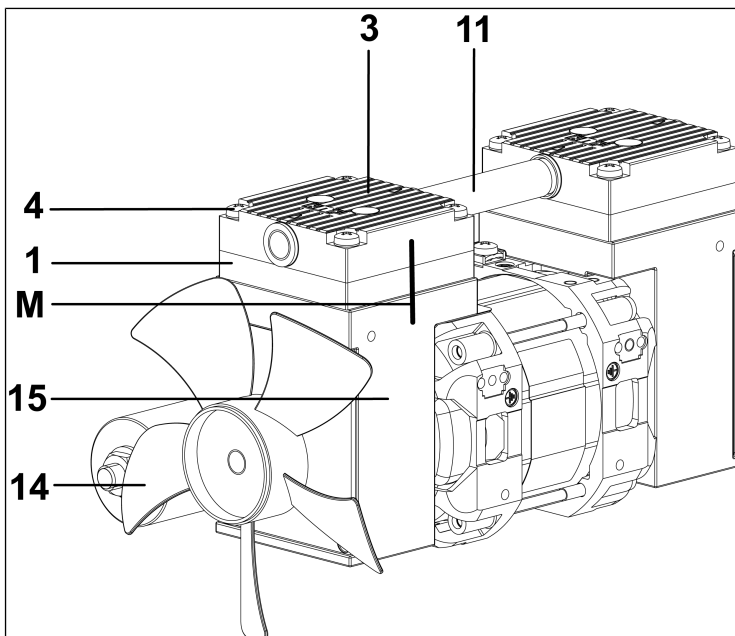
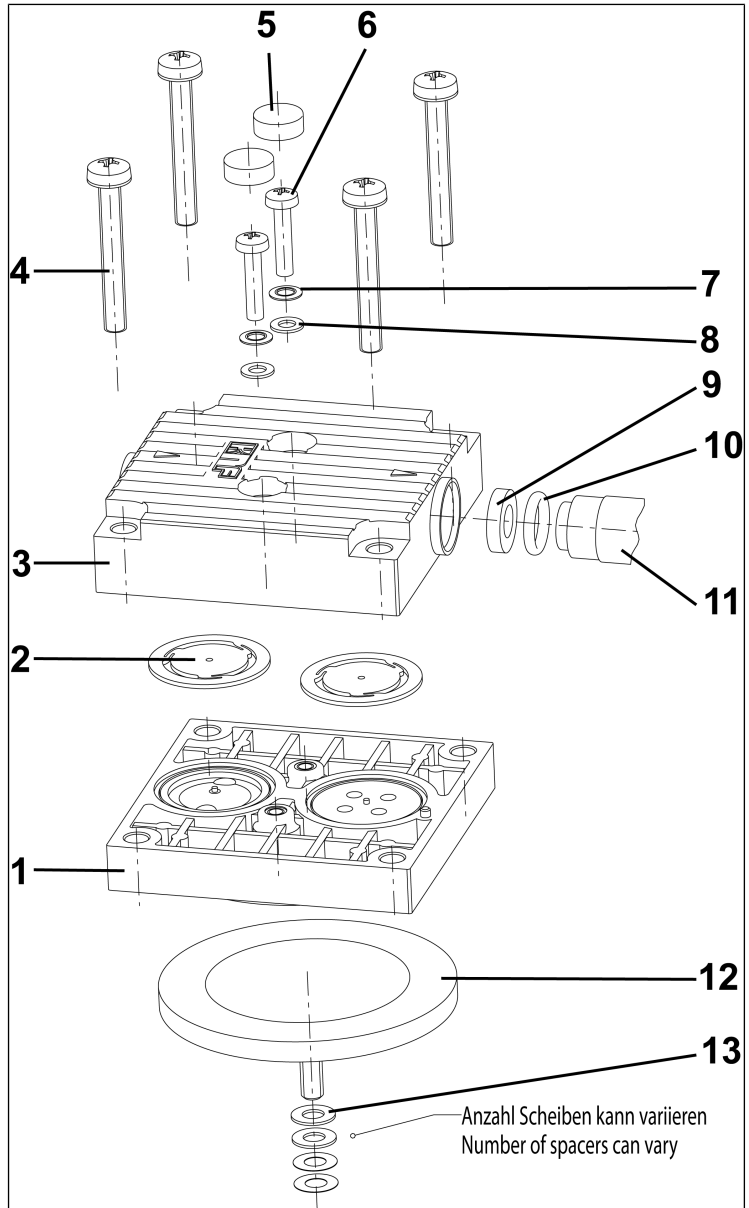

Fig.4: Pump N816.3
Fig.5: Pump head (exploded view, symbolic)
**According to Fig. 5
1. On both pump heads, mark the position of the head plate (Fig. 4/3), intermediate plate (1) and pump housing (15) in relation to each other with a continuous felt-tip pen line (M) to ensure correct assembly.
1. Move a diaphragm (Fig. 5/12) to the upper reversal point by turning the fan wheel (Fig. 4/14).
2. Lift the diaphragm (Fig. 5/12) on opposite side edges, grasp the diaphragm and unscrew the diaphragm counter-clockwise.
3. Remove the shim(s) (13) from the threaded bolt of the diaphragm and keep them in a safe place.
5. Slide the shims (13) onto the threaded bolt of the new diaphragm.
6. Move the connecting rod (connection part between drive shaft and diaphragm) to the upper reversal point by turning the fan wheel (Fig. 4/14).
7. Screw the new diaphragm (Fig. 5/12) with shim(s) (13) clockwise onto the connecting rod and tighten finger-tight.
7. Insert the new valves (2) in the valve seats of the intermediate plate (1).
8. By moving the valves (2) slightly horizontally, make sure that the hole of the valves is centered on the centering pin of the intermediate plate (1).
9. Place the head plate (3) on the intermediate plate (1) according to the felt-tip pen marking (Fig. 4/M).
10. With a slight lateral movement of the head plate (Fig. 5/3), check its centering.
11. Connect the head plate (3) and the intermediate plate (1) by tightening the two screws (6) (finger-tight).
1. Insert the spacer (9) back into the head plate (3).
2. Insert the connection tube (11) into the hole of the head plate (3).
3. Make sure that the O-ring (10) rests on the end of the connection tube.
4. Place the two pump heads connected by the connection tube (11) on the housing according to the markings (Fig. 4/M).
5. Only finger-tighten the screws (Fig. 5/4) crosswise on both pump heads.
6. Check for ease of movement of the pump by turning the fan wheel (Fig. 4/14).
7. Only finger-tighten the screws (Fig. 5/4) crosswise on both pump heads.